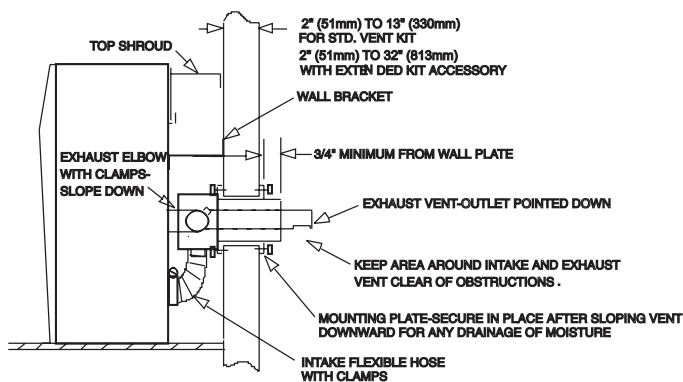

Figure 4
To complete inside installation, secure furnace to the wall bracket by attaching the two wall mounting brackets to the wall bracket by using (2) 10 x 1/2" (13mm) hex-head screws provided (See Figures 4 and 6). To attach the right shroud and left shroud to the casing back, the 3/4" wide flange on the shroud must be positioned toward the casing side. When positioned correctly, the (6) louvers on the shroud will be facing up and the knock-out on the shroud will be facing down. Attach the right shroud and left shroud to the casing back with (3) 10x1/2" hex-head screws supplied in hardware package, for each shroud. Attach top shroud to right shroud and left shroud with (4) Phillips-head screws, supplied in hardware package. Insert air filter into top shroud.